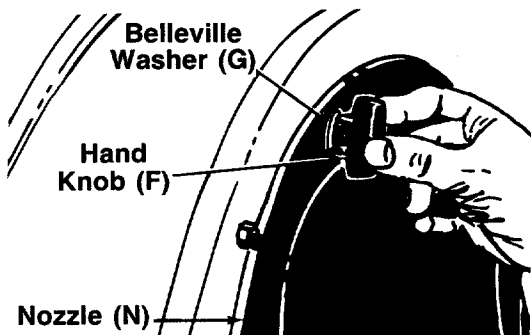

FIGURE 4.
Place nozzle (N) in position on front of housing so that it rests in flanges. Secure with one hand knob (F) and belleville washer (G) (cupped side of washer against the nozzle). See figure 4.